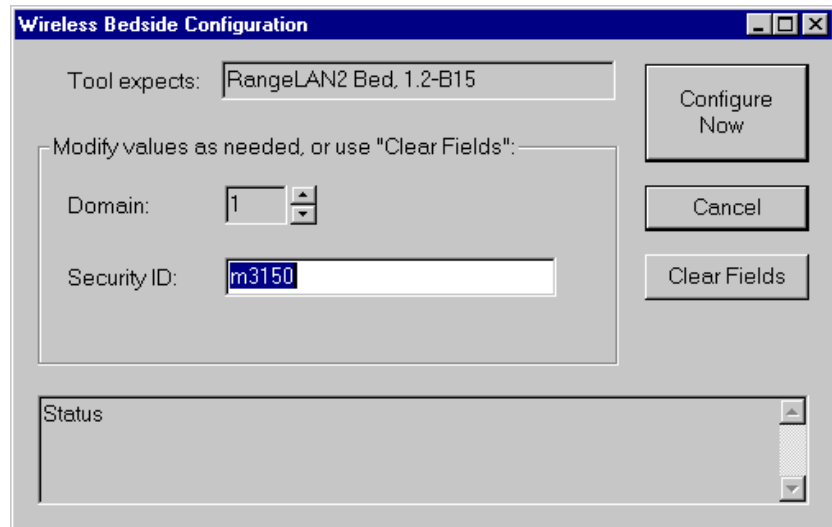

Figure 4-12 Wireless Bedside Parameters Window
Step 6. Click **Configure Now** to open the **Wireless Bedside Parameters** window of Figure 4-12.
Note The **Configuration Tool** retains the parameter values entered when it was previously run. For each Wireless Adapter configured, enter the parameters for that Wireless Adapter in the **Wireless Bedside Parameters** window of **Figure 4-12**. It is possible that all of the Wireless M3/M4 Monitors in a system will have the same configuration parameters.